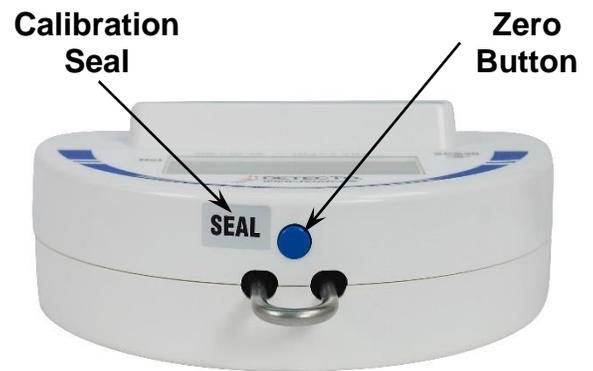

Figure No. 3
2. Referring to Figure No. 3, press Zero Button to zero scale.
1. Remove the calibration seal to expose the Test Pins. See Figure No. 3 on previous page for seal location.